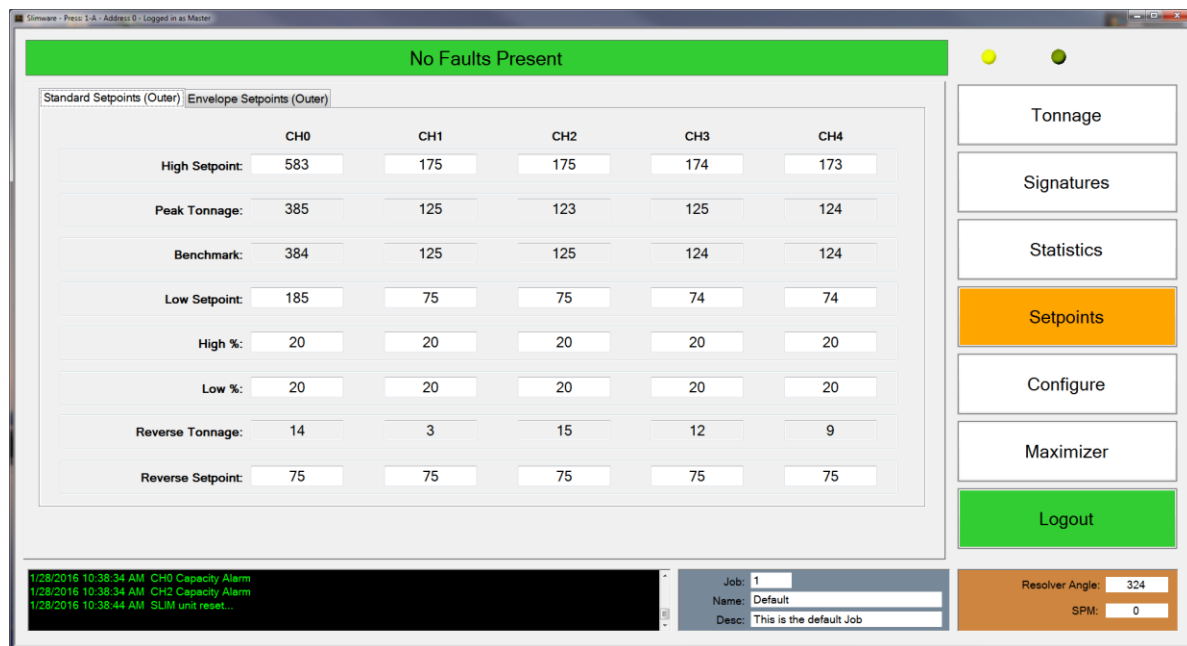

Figure 2-8: Standard Setpoints Screen (4-Channel)
Figure 2-8 shows a typical four (4) channel LS-ZT unit's setpoint screen. If the user is not logged in with a setup or master level password, these setpoints are "read only". If a user is logged in with a setup or master password, these values can be changed.